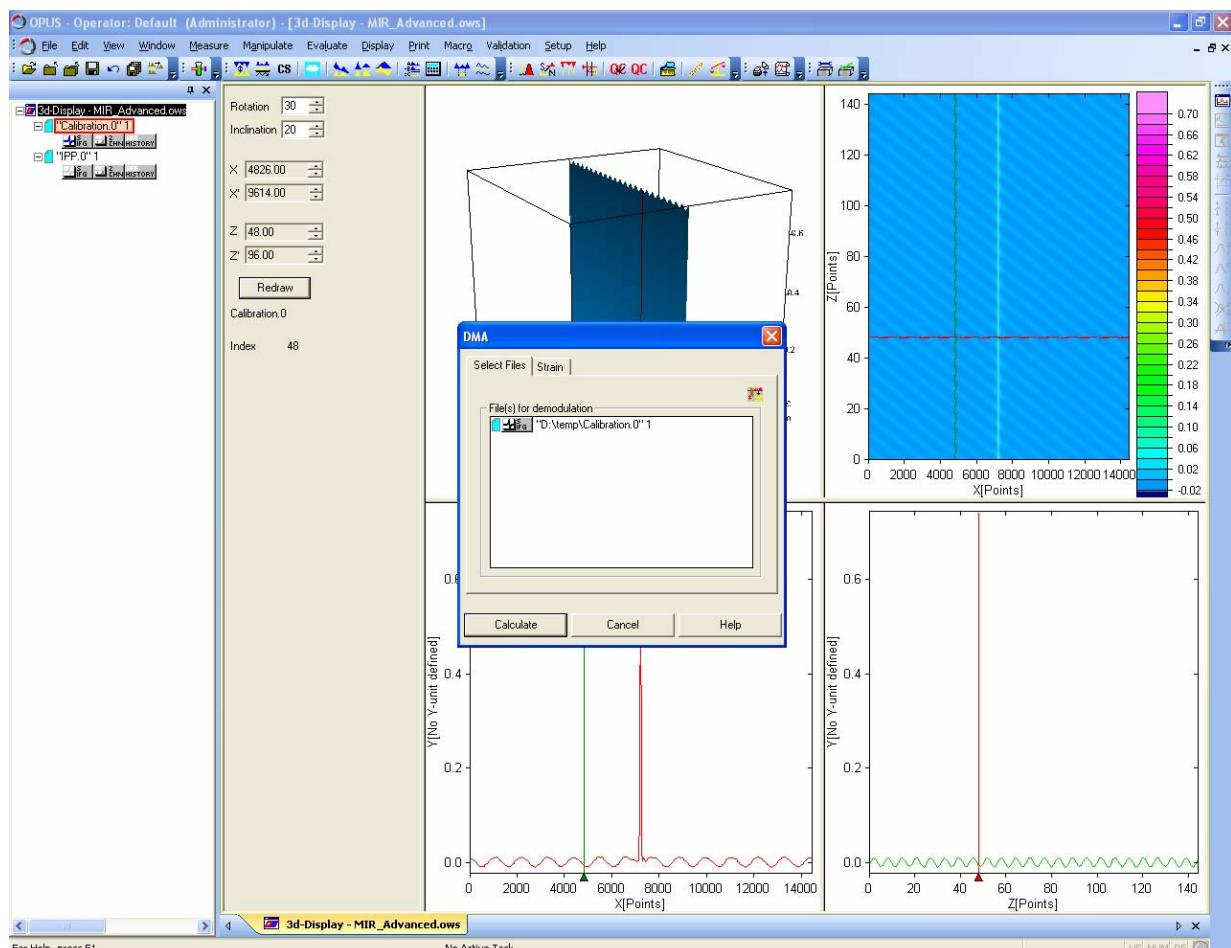

Fig. 15: DMA dialog window - Select files” page. The “S_IFG” data block of the 3D file resulting from the calibration measurement is included.
- Select in the OPUS browser the 3D file resulting from the calibration measurement by clicking on it with the left mouse button. Then, select in the “Evaluate” menu the “DMA” function. Thereupon, the “DMA” dialog window appears. (See figure 15.) In the field “File(s) for demodulation”, the data block “S_IFG” resulting from the calibration measurement should already be included. If not, just drag & drop the data block “S_IFG” of the corresponding 3D file into this field.